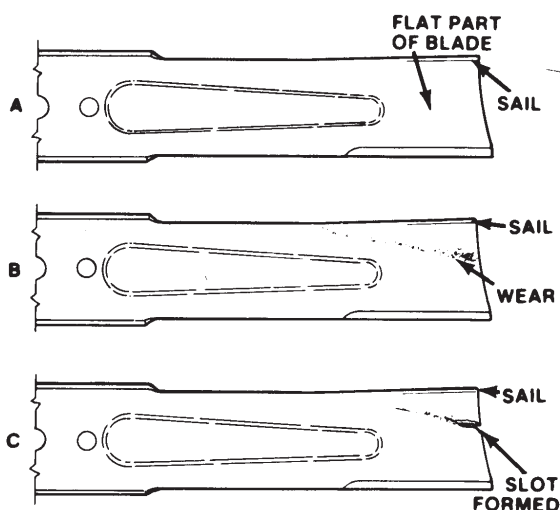

Figure 27
2. Examine the cutting ends of the blade carefully, especially where the flat and curved parts of the blade meet (Fig. 27-A). Since sand and abrasive material can wear away the metal that connects the flat and curved parts of the blade, check the blade before using the machine. If wear is noticed (Fig. 27-B), replace the blade; refer to Removing the Cutting Blade, page 18.
If the blade is allowed to wear, a slot will form between the sail and flat part of the blade (Fig. 27-C). Eventually, a piece of the blade may break off and be thrown from under the housing, possibly resulting in serious injury to yourself or bystanders.